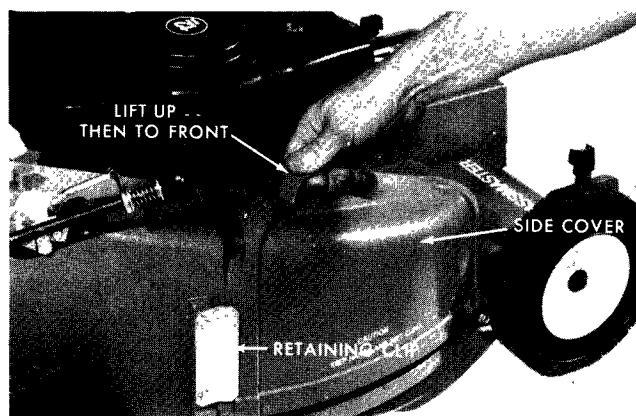

Figure 7
**NOTE:** Be sure that retaining clip is always on outside of side cover or deflector as shown in Figures 7 and 9.